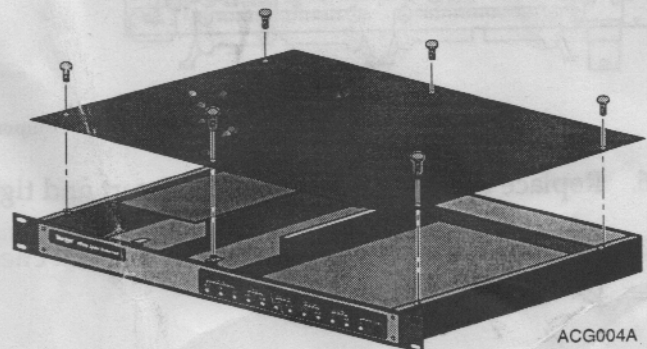

Figure 1. Removing the Top Cover
2. Remove the six phillips screws securing the top cover of the System Unit. (Figure 1)